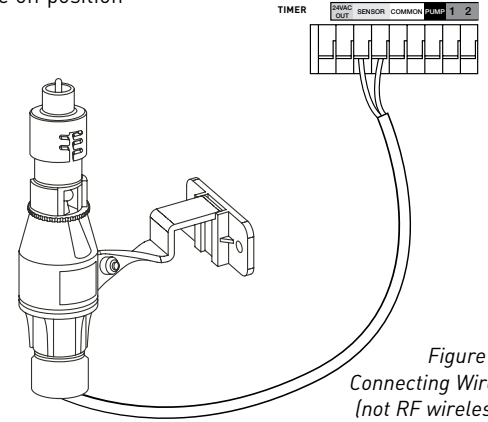

Figure 6: Connecting Wired (not RF wireless) Rain Sensor
- Place the sensor on/off switch to the “on” position to begin operation [see figure 6]